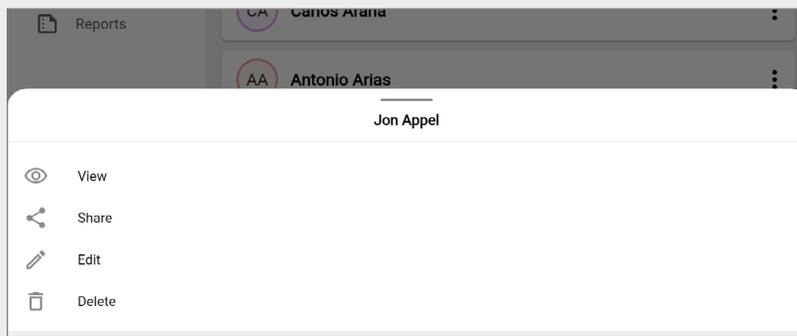

Fig. 211 – Admins screen – Users tab – quick action menu
3. **Quick action menu:** Select **menu**  to open the **quick action menu** shown in Fig. 211.
Selecting **menu**  on the **Users** tab of the **Admin** screen opens the **quick action menu**, as shown in Fig. 211.